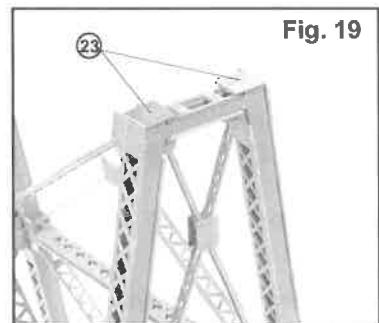
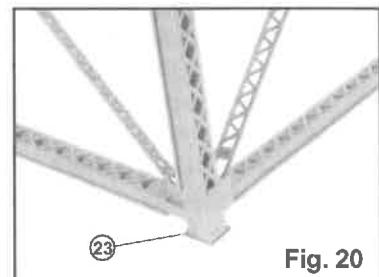

Fig. 19
Fig. 20
**19. Cement the bearing plates part (23) to the top and bottom of the tower.**
Position the top bearing plates so they are on top of the bent ends but against the edge of the tower gusset plates and are flush with the outside of the bent. See fig. 19. Position the bottom bearing plates against the bottom of the bents, centered on the four sides of the bent leg. See fig. 20. File or sand the edge of parts (21) and (22) and the bottom edges of the bent legs, if necessary, so the bearing plates sit level.